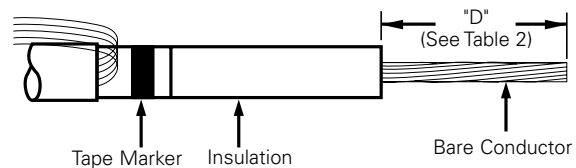

Figure 6. Line illustration of bare conductor length.
- Remove insulation exposing bare conductor to length of "D". (Refer to Figure 6 and Table 2 to determine variable "D" length.)